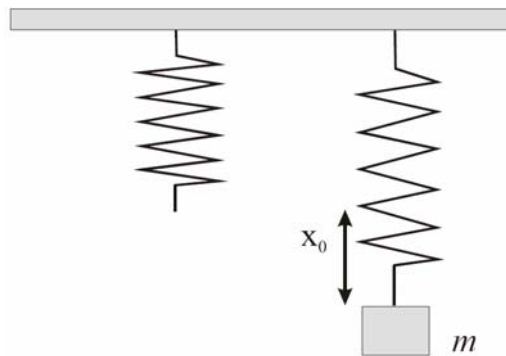

Fig. 1. A mass on a spring in the gravitational field of Earth
5. Show by using Hooke's Law that a stationary mass m hanging from a spring with constant k (Fig. 1) stretches the spring to a new equilibrium position $x_0 = \frac{mg}{k}$.
6. Confirm by substitution that Eq. (7) indeed solves Eq. (6).
7. Show that when $\beta = 0$ (no damping), Eq. (7) reduces to Eq. (3).